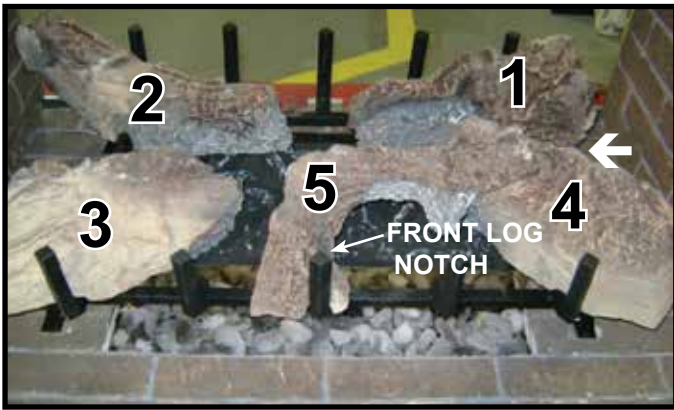

Figure 12.
**LOG NUMBER 5 (SRV2146-705):** Place Log #5 from side of unit where pilot is located on your right side. Place log so the front log notch engages the center grate tine as shown in Figure 12 and the right side of log rests on the notch in Log #4. See Figure 11. The notch is visible in Figure 11. The log must **NOT** block or sit directly over any burner ports.